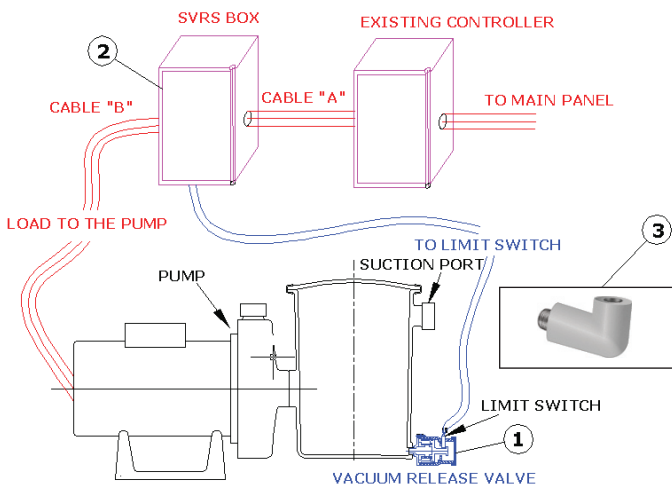

Figure 1. Breather III-ADJ System Schematic
1. PARTS LIST (See Figure 1)
- a. A piece of cable with copper conductors same gauge as the existing cable to make cable "A" and cable "B" if needed. See Figure 1.
- 4.6 Remove the most convenient knockout of the SVRS box and attach incoming line from existing timer or controller cable “A” to box using proper conduits and cable connectors as shown in Figures 1 and 3.
- 4.7 If your pump is cord and plug connected, remove plug at end of pump cord. Split cord about 4 inches and strip wire ends 1/2 inch. Remove the most convenient knockout of the SVRS box and attach cord to box using proper strain relief grommet as shown in Figures 1 and 3.
- 4.8 If your pump is hard wired, (if needed) prepare cable “B” by stripping the ends of wires about 1/2 inch. Using proper conduits and cable connectors attach cable “B” to the box as shown in Figures 1 and 3.
- 4.9 Connect the cable to the pump motor and then the wires to the motor terminals per motor instructions and nameplate diagram. Remove the most convenient knockout of the SVRS box and attach the other end of the cable to the box using proper cable connector as shown in Figures 1 and 3.